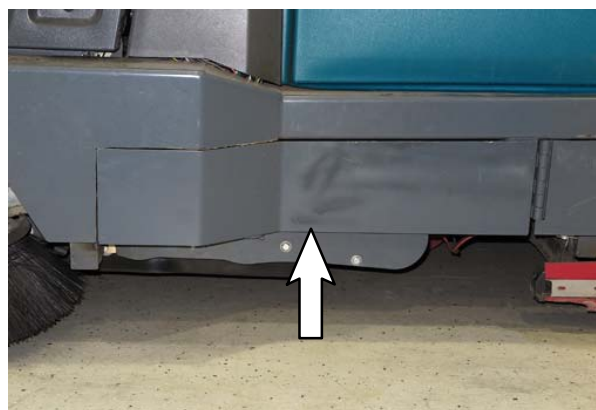

FIG. 1
3. Remove the left brush panel from the machine. Set the left brush panel and all mounting hardware aside. (Fig. 1)